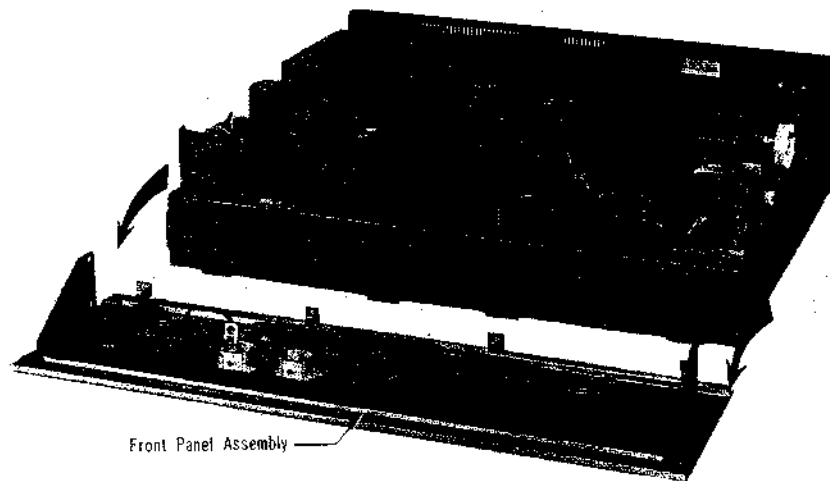

Fig. 2-3-1 Removal of Front Panel Ass'y
- (e) The Front Panel Assembly is now free, and can be tilted forward and down as shown in Fig. 2-3-1.